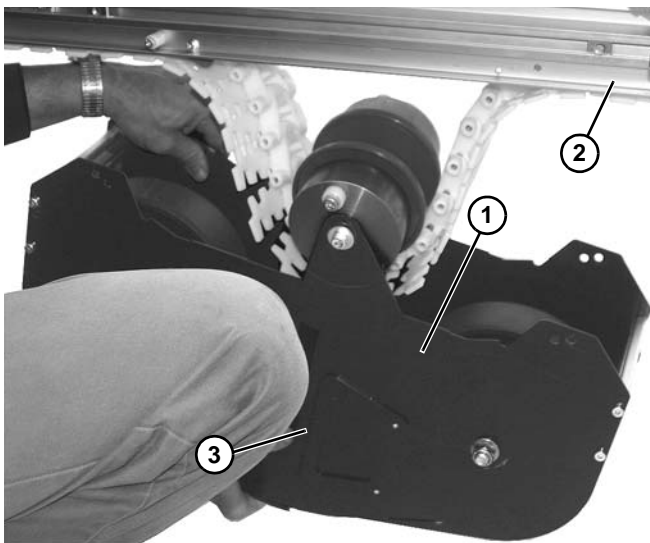

Figure 148
2. Lower weighted take up assembly (**Figure 148, item 1**) from conveyor (**Figure 148, item 2**) by disengaging locking teeth (**Figure 148, item 3**) on both sides.